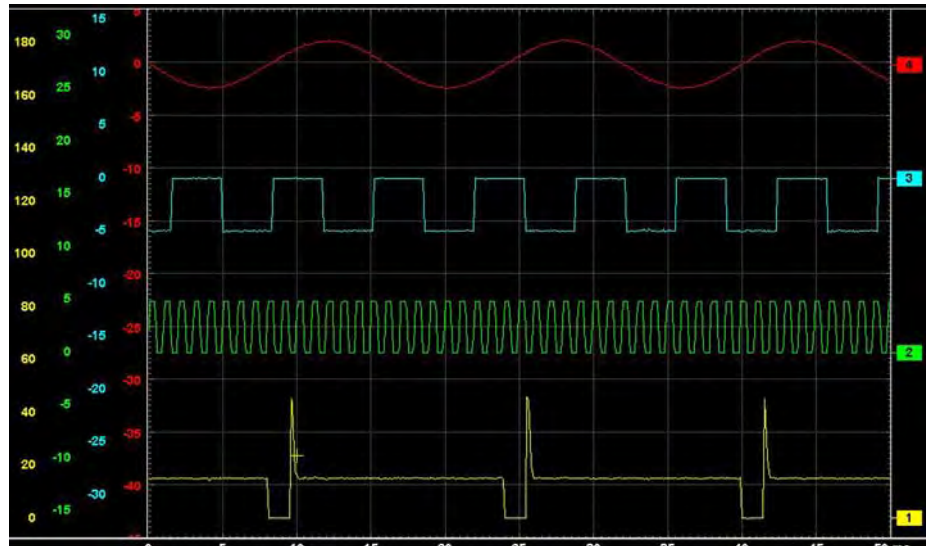

Figure 8-19 Sample grid selected
- **Show Grid**—switches grid lines on the screen off and on (Figure 8-19).
- **1 window**—shows all traces on the same screen (Figure 8-19).